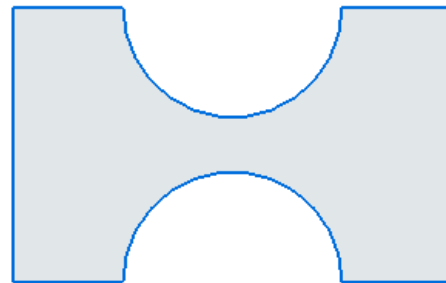

Figure 2-42 Final profile for Tutorial 2
19. Click to define the endpoint of this line when the endpoint relationship handle is displayed. The final profile of the model is shown in Figure 2-42.